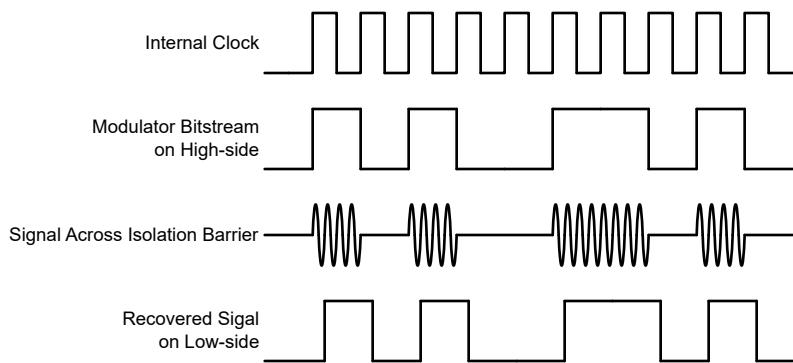

Figure 7-1. OOK-Based Modulation Scheme
As shown in Figure 7-1, the AMC0x30D-Q1 uses an on-off keying (OOK) modulation scheme to transmit the modulator output bitstream across the SiO_2 -based isolation barrier. The transmit driver (TX) is illustrated in the Functional Block Diagram. TX transmits an internally generated, high-frequency carrier across the isolation barrier to represent a digital one. However, TX does not send a signal to represent a digital zero. The nominal frequency of the carrier used inside the AMC0x30D-Q1 is 480MHz.